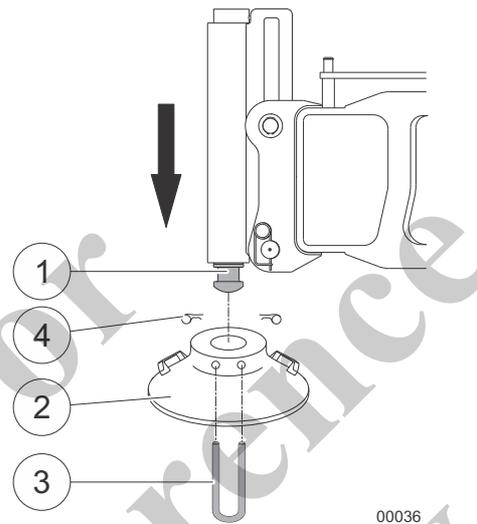

Fig. 147 Attaching the outrigger pad
| 7 | Push the locking bracket (3) in Fig. 147 through the outrigger pad. |
| 8 | Secure the locking brackets with spring washers (4) in Fig. 147. |